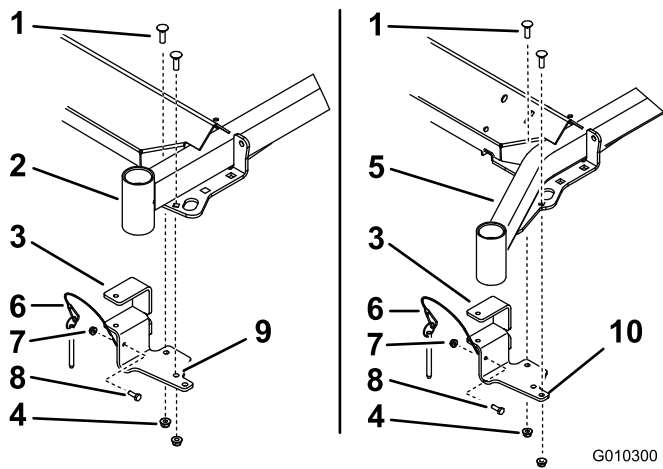

Figure 4
1. Place the Z Stand cradle bracket onto the left front frame as shown in Figure 4.
2. Install the Z Stand cradle bracket to the frame with the cradle bracket, 2 carriage bolts (3/8 x 1-1/4 inches) and 2 flange nuts (3/8 inch) (Figure 4).
Ensure the correct holes are used as shown in Figure 4.
3. Install the lanyard to bracket pin. Use large loop on lanyard (Figure 4).
4. Install the lanyard with a bolt (1/4 x 3/4 inches) and locknut (1/4 inch) (Figure 4).